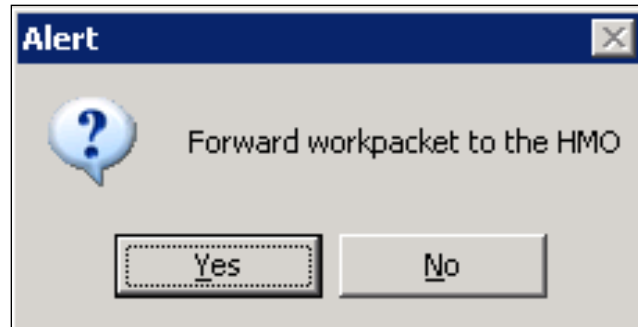

Figure 10-47: Forward Work Packet Dialog Box
14. Click the SUBMIT FOR HMO APPROVAL button. The Forward Work Packet dialog box is displayed (Figure 10-47).